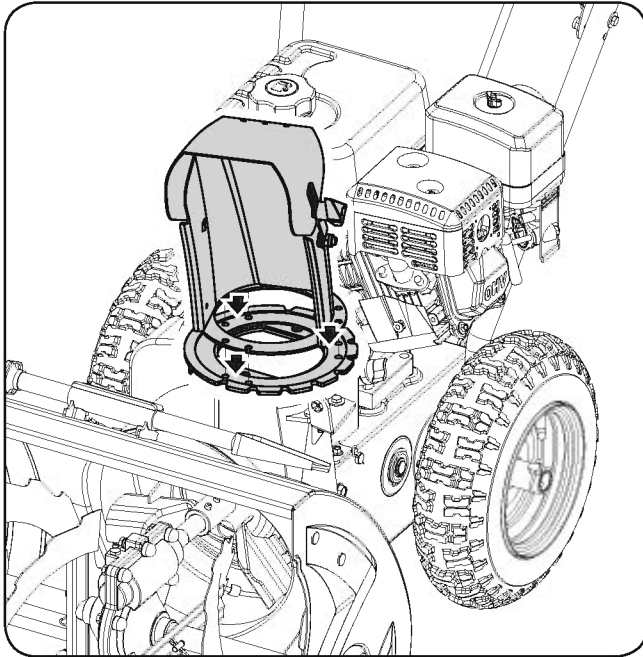

Figure 8b
- Place the discharge chute facing it forward over the chute crank flange. (See **Figure 8b**)